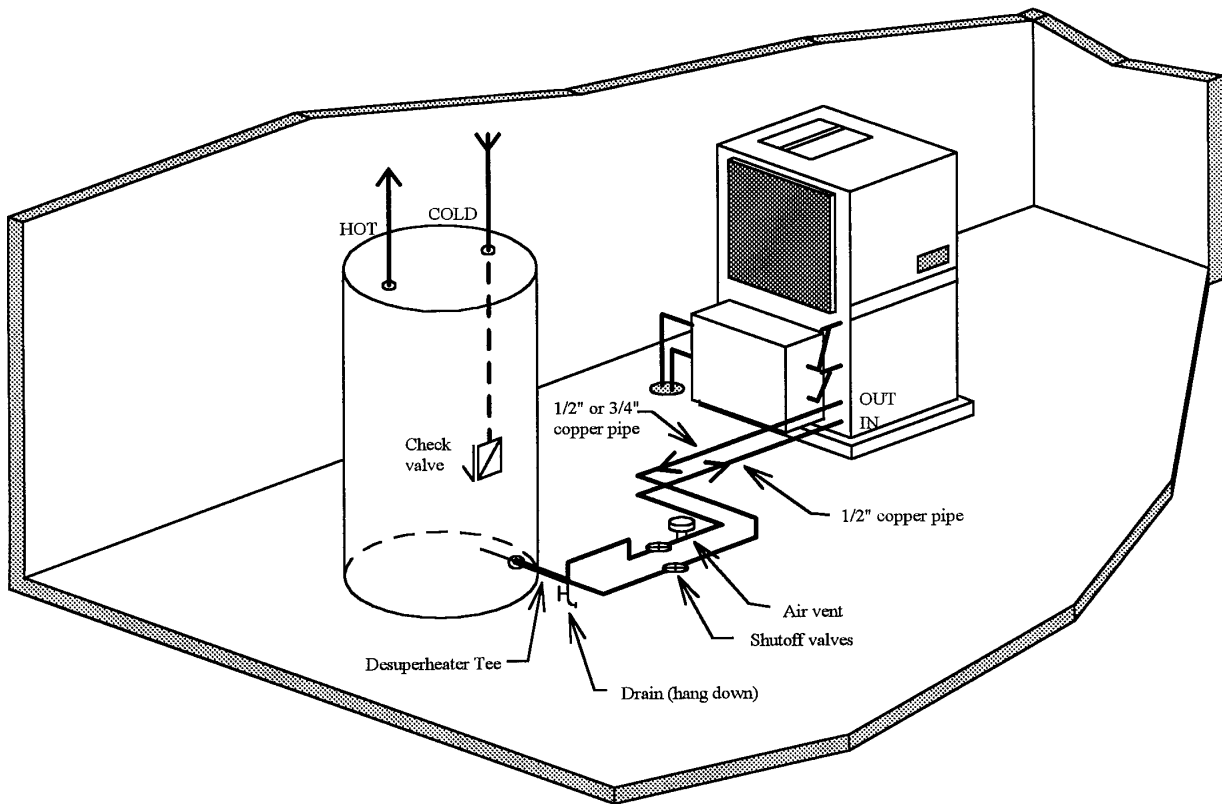

Figure 7 – Preferred Desuperheater Installation
*Using a desuperheater tee installed in the drain at the bottom of the water heater (See Figure 7).* This is the preferred method for ease of installation, comfort and efficiency. The tee eliminates the need to tap into the domestic hot water lines and eliminates household water supply temperature variations that could occur from connecting to the hot water pipes.